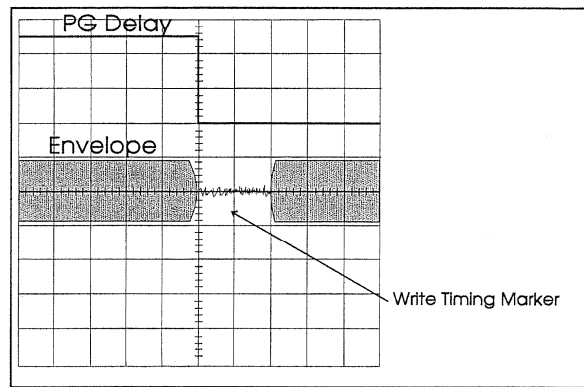

Figure 6- Write Timing Marker
- ① Insert the Alignment Tape into the V-Eight and press **PLAY**.
- Press and hold the ∇ /**No** and/or Δ /**Yes** keys to move the write timing marker until it is positioned on the **falling edge** of the PG Delay pulse (see Figure 6). It is also possible to enter a value using the numeric keypad.